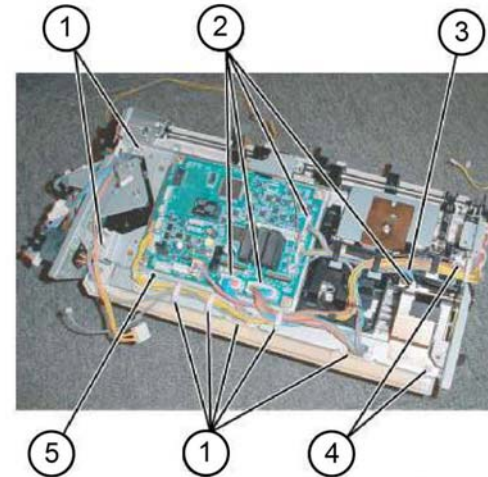

Figure 2 Bottom plate removal
5. Remove the bottom plate, Figure 2:
- a. Release the harness from the 5 clamps (1).
- b. Disconnect eight connectors (2).
- c. Remove the harness from the retainers (3).
- d. Remove four screws (4).
- e. Remove the bottom plate (5).